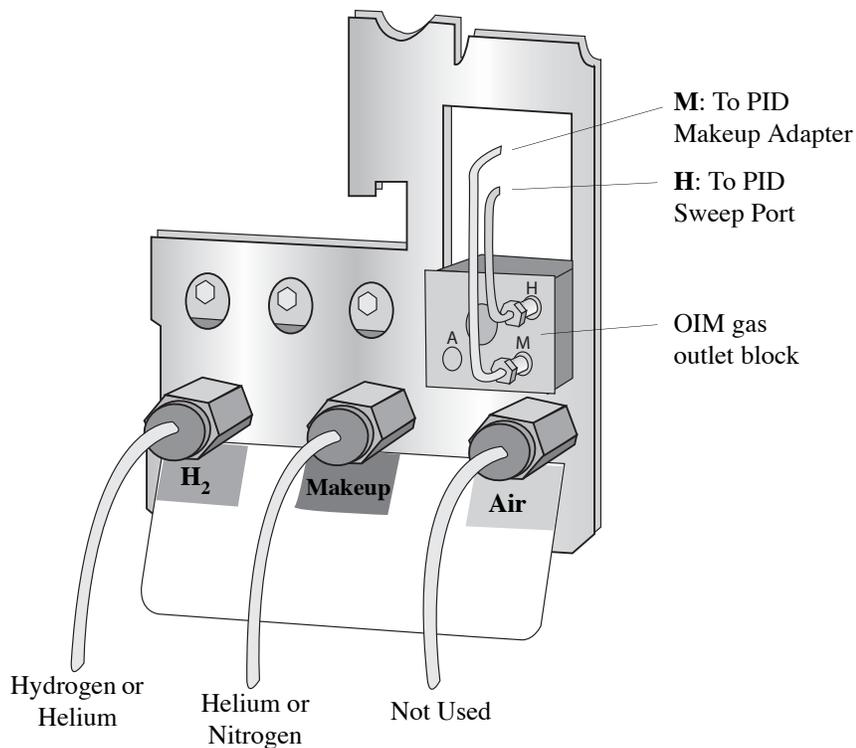
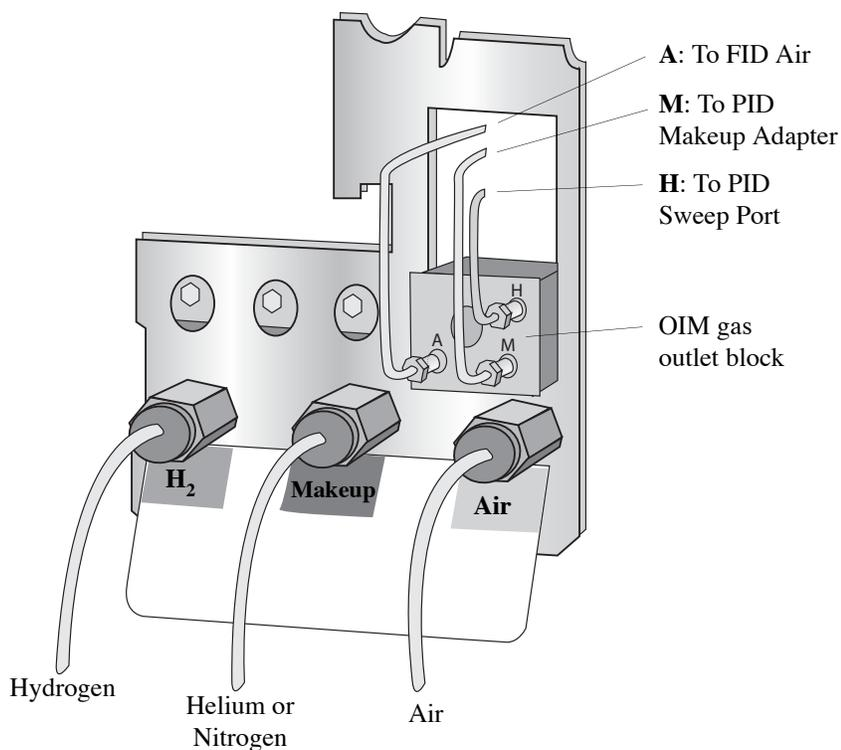
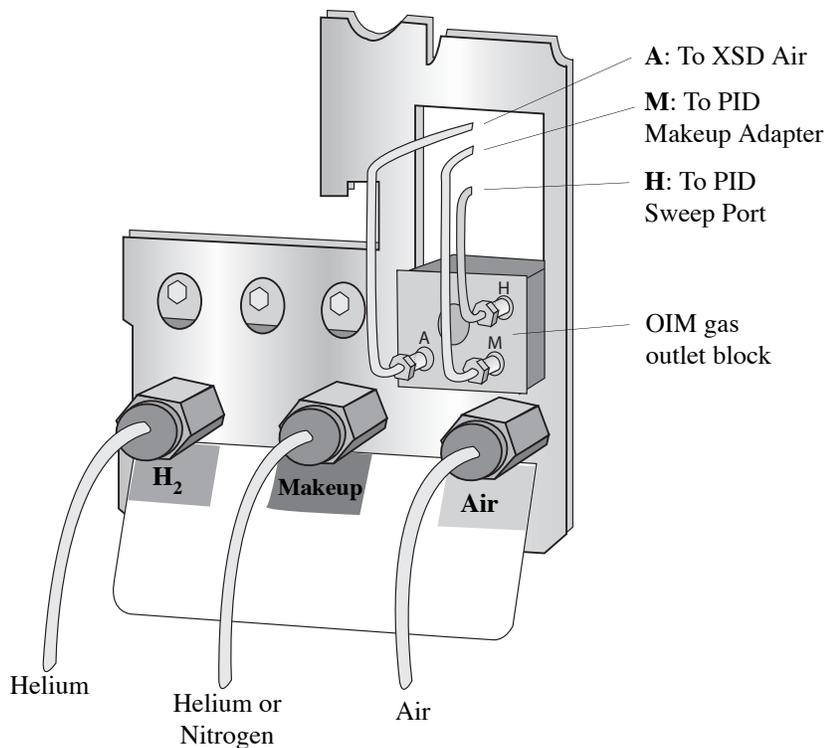
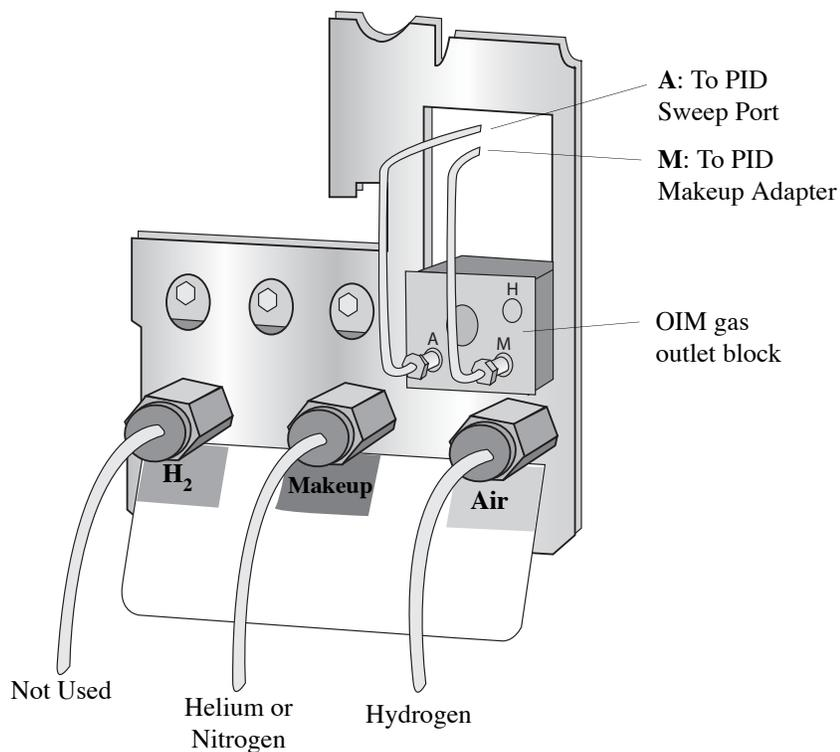

Figure 3.18. OIM Module Plumbing for PID Standalone
Figure 3.19. OIM Module Plumbing for PID/FID
Figure 3.20. OIM Module Plumbing for PID/XSD
Figure 3.21. OIM Module Plumbing for PID/ELCD
- Use $\frac{1}{8}$ " brass nuts and ferrules to attach the appropriate supply gases to the OIM. Refer to Table 3.2 and Figure 3.18 or Figure 3.21.
- If installing a standalone PID, PID/FID, or PID/XSD, attach the sweep gas supply line to the “H” outlet on the OIM gas outlet block using a $\frac{1}{16}$ " nut (PN 223057) and ferrule (PN 216366); refer to Figure 3.18 for PID, Figure 3.19 for PID/FID, or Figure 3.20 for XSD.
5. If installing a PID/ELCD, attach the sweep gas supply line to the "A" outlet on the OIM gas outlet block using a $\frac{1}{16}$ " nut (PN 223057) and ferrule (PN 216366); refer to Figure 3.21.